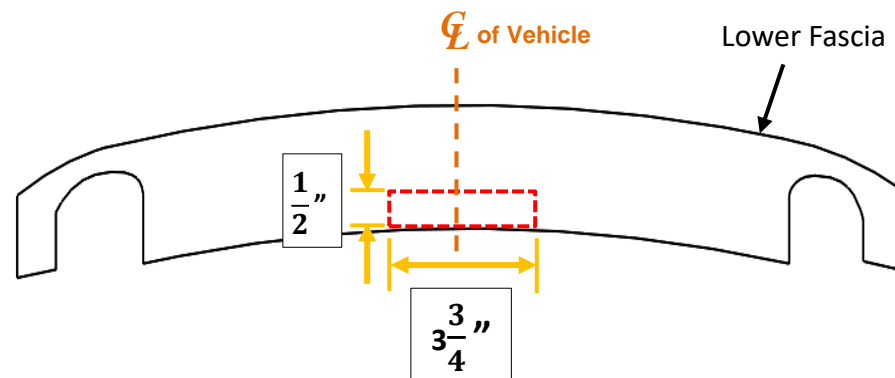

Figure 4
4. **Trim lower fascia (Ford Escape only)** – Using a tape measure, marker, and utility knife, measure, mark, and trim the lower fascia as shown in **Figure 4**.